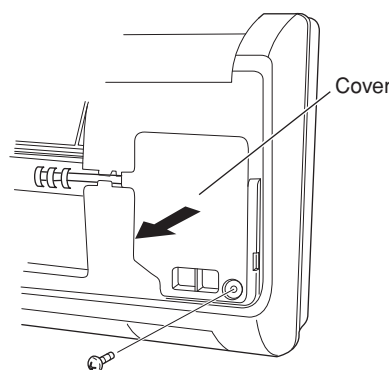

Fig. 24a
- (1) Grasp both ends of the air intake grille, and remove it by opening towards the front and pulling towards you.
- (2) Remove the screw on the right side cover plate and open the cover. (Fig. 24a, 24b, 24c or 24d)